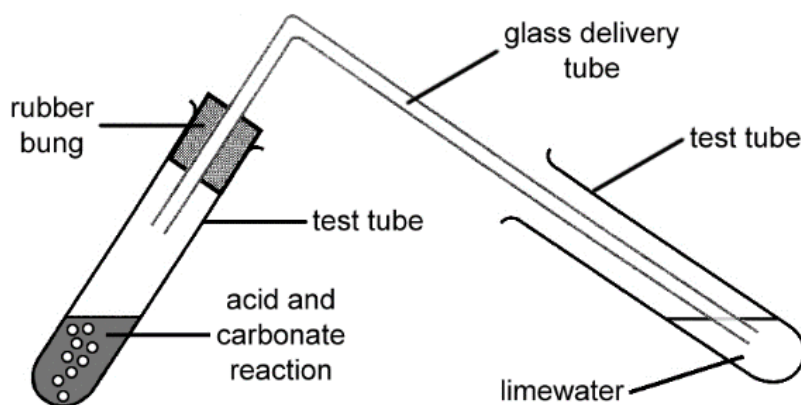

Figure 2. Testing the gas that is produced when a carbonate reacts with an acid.
7. To the test tube that contains the mixture of calcium chloride and sodium carbonate, carefully add a 2 cm depth of dilute hydrochloric acid. Immediately stopper the test tube using the rubber bung and glass delivery tube. Bubble any gas produced through the test tube of limewater that you prepared in **Step 5** (see **Figure 2**). Study the reactions carefully. Record your observations in the results section.